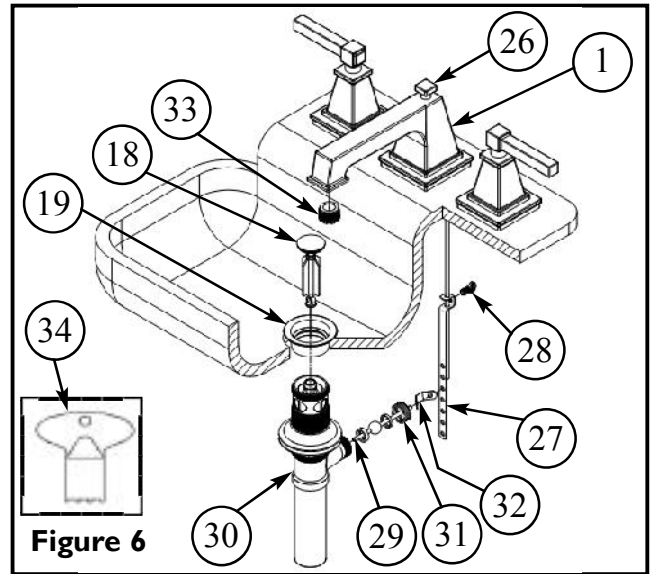

Figure 6
7. Insert ball ROD (29) into the drain rod OPENING (30); secure with ball rod NUT (31). Insert pop-up ROD (26) through SPOUT (1) and secure to STRAP (27), approximately 1" from end of ROD (26), with SCREW (28). Place drain PLUG (18) into FLANGE (19). Adjust the rise of the plunger and CLIP (32) into place. Adjust ball ROD (29) and pop-up ROD (26) so drain will open and close properly. See Figure 6.
8. Remove AERATOR (33) from SPOUT (1), utilizing aerator KEY (34). Turn on water supply, and flush both VALVES (4) until water is clear. Check for leaks and make any final adjustments required. Re-attach AERATOR (33) to the SPOUT (1) using aerator KEY (34). See Figure 6.